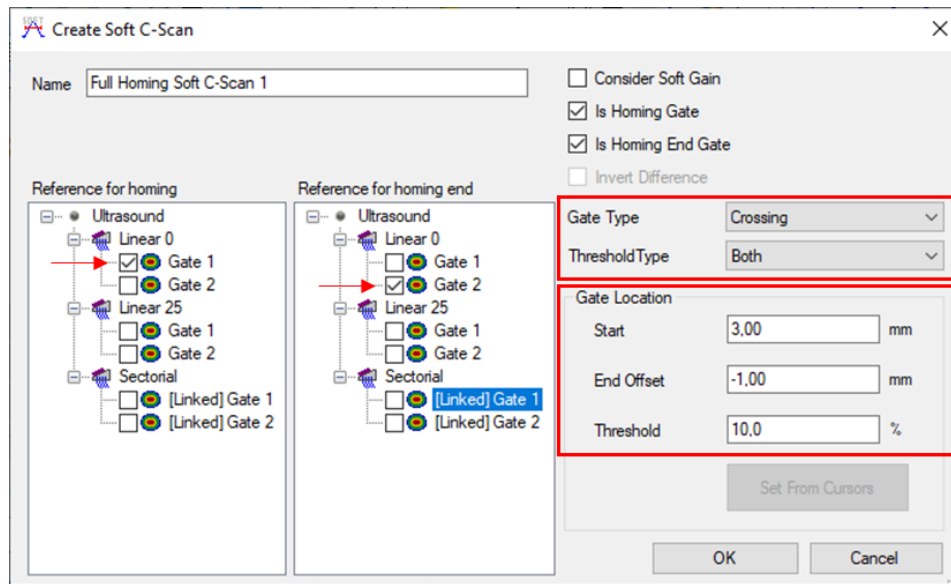

Figure 33: Configuring Full Homing Soft C-Scan parameters
- In Figure 33, the user requests the Soft C-Scan to start 3,00 mm after the position of the triggering signal in the Homing reference gate (**Gate 1**) and its length to be adjusted so that it ends 1,00 mm before the position of the triggering signal in the Homing End reference gate (**Gate 2**)